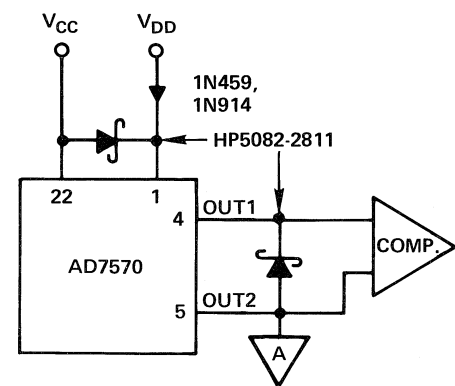

Figure 12. Diode Protection Scheme
1. Do not allow V_{CC} to exceed V_{DD} . In cases where V_{CC} could exceed V_{DD} , the diode protection scheme in Figure 12 is recommended.
3. Do not apply voltages (from a source which can supply more than 5mA) lower than ground to the OUT1 or OUT2 terminal (see Figure 12).